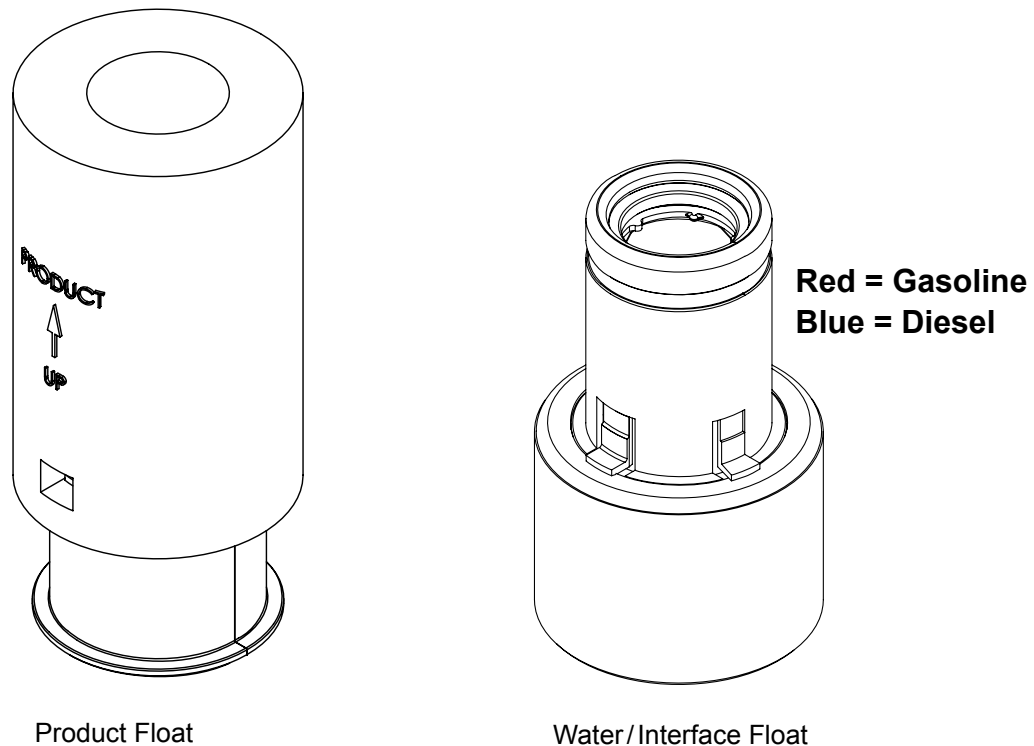

Figure 1: TSP-IDF2 & TSP-IGF2 Floats
Figure 1 shows these floats.
- Verify that the color of the water float agrees with the product to be used within the storage tank (Figure 1).